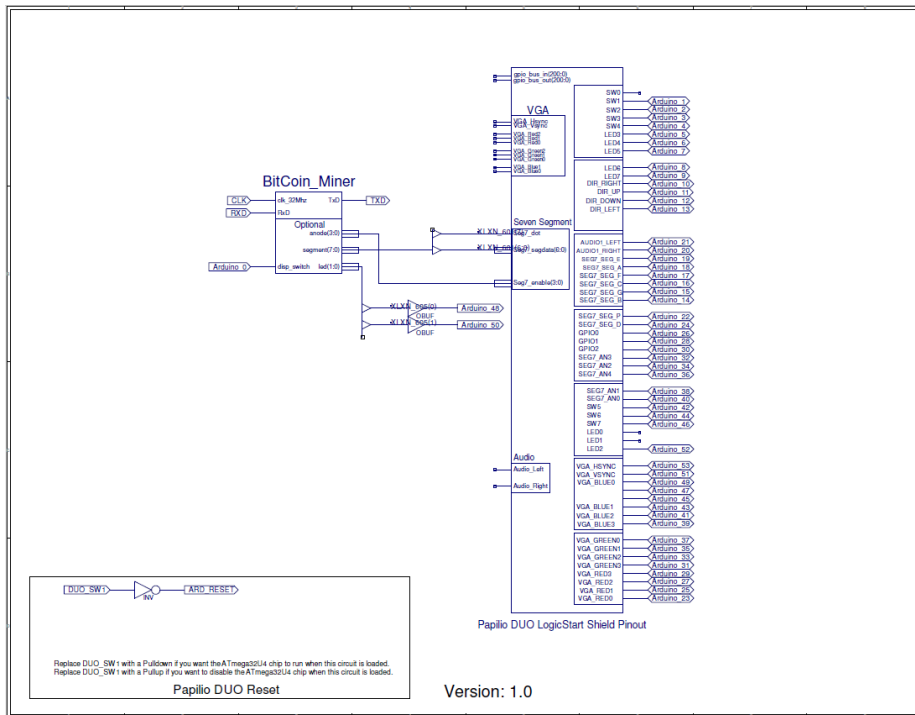

Figure 8-4 Bitcoin DesignLab schematic
2. To view your design, click View Circuit in the top toolbar. A PDF file of the top-level schematic will open, as seen in Figure 8-4.